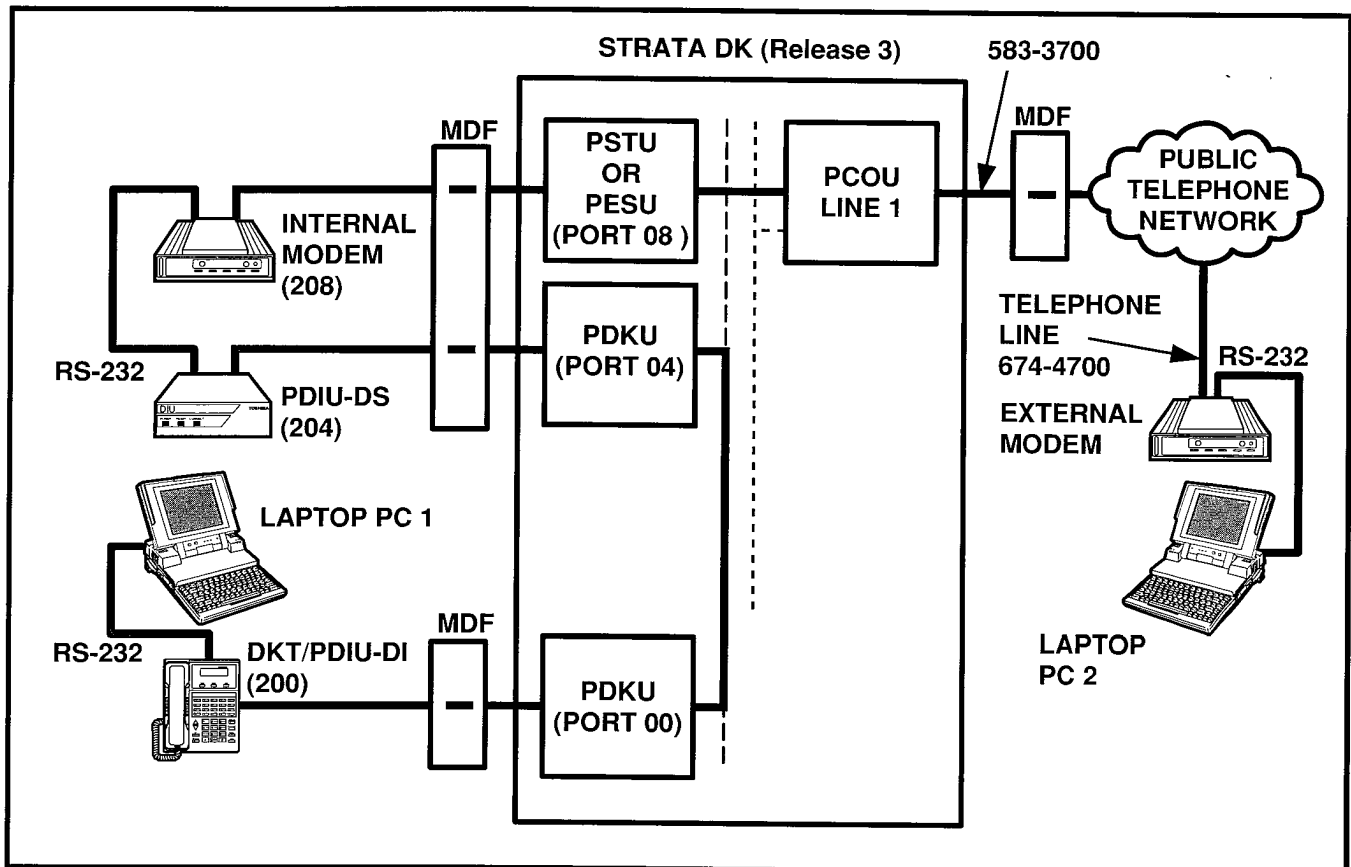

FIGURE 8-38—EXTERNAL PC TO INTERNAL PC TEST CALL USING AT COMMANDS
12.85 External PC to Internal PC Test Call Using AT Commands (see Figure 8-38)